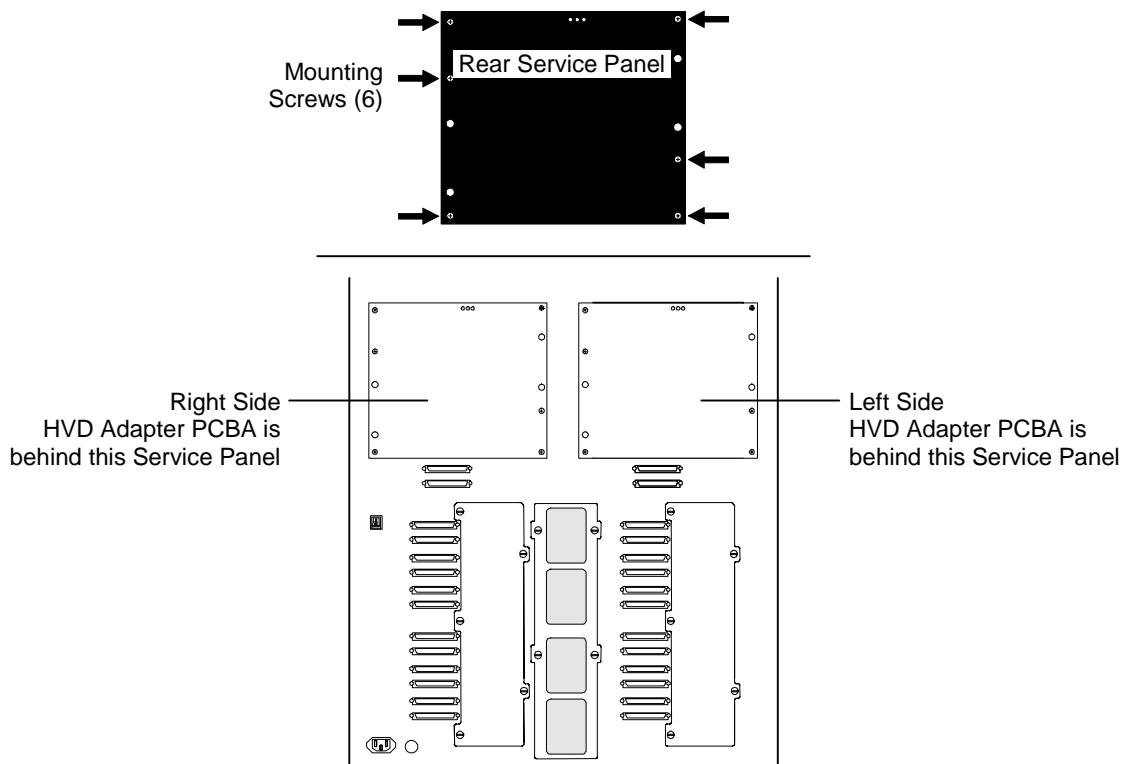

Figure 7-44 Rear View of Service Panels
2. Use a number 2 Phillips screwdriver to remove all six Rear Service Panel mounting screws (Figure 7-44), then remove the panel.
4. Place the Rear Service Panel onto the TLS, then use a number 2 Phillips screwdriver to reinstall all six Rear Service Panel mounting screws (Figure 7-44).